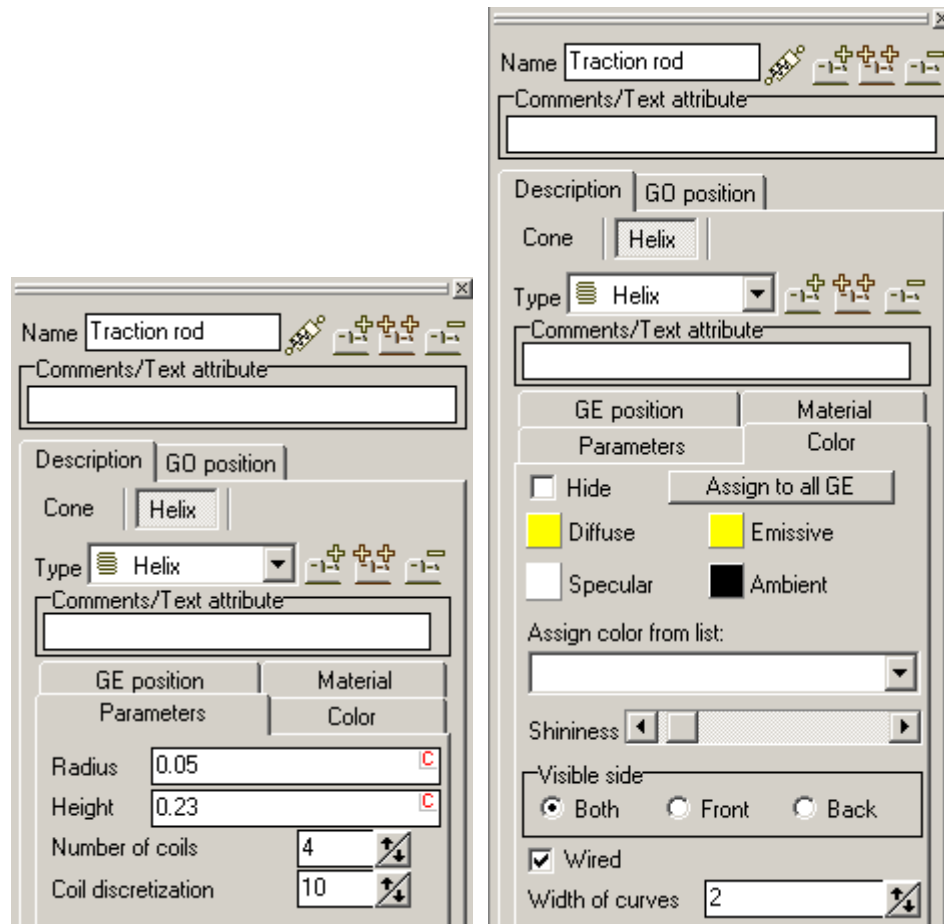

Figure 2.16. Traction rod: spiral
7. Set the spiral parameters as it's shown in the Fig. 2.16, left.
8. Choose black color as **diffuse** color. Turn on **Wired** and **Width of curves** set to **2**, see Fig. 2.16, right.